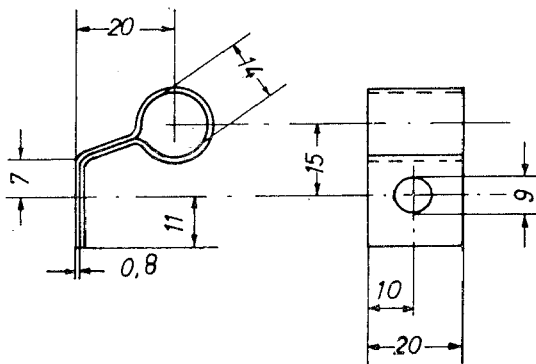

Fig. 3
- 7a. The Moto-Meter outside sensor is best mounted by means of a clip lined with 2 mm thick rubber (see specifications for local manufacture Fig. 3). Fix the clip onto the first screw of the right bumper bracket, seen from the car's middle.